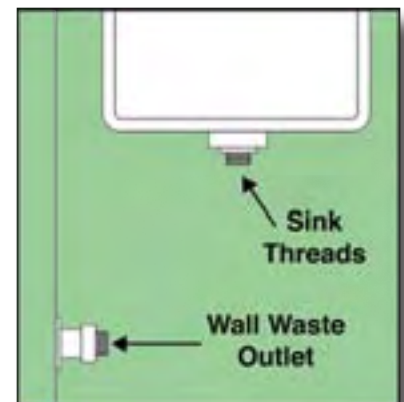

FIGURE 1
2. The Gleco Trap HV has two identical threaded 1½" outlets on the top of the container. Decide which container outlet will connect to the sink drain based on the location of the wall waste outlet as shown in *Figure 1*. The wall waste container outlet will be on the same side as the wall waste outlet and the other outlet will connect to the sink drain. If the wall waste outlet is vertically in line with the sink drain, choose either container outlet for the sink drain connection.